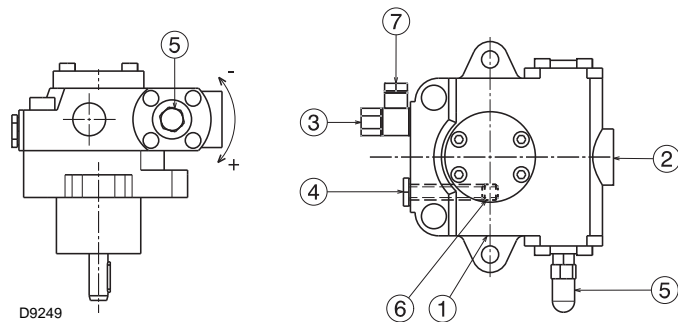

Fig. 20
For the priming pump loosen the screw 4)(Fig. 20) in order to bleed off the air contained in the suction line and wait until the fuel flows out.
The pumps are installed on the burner with the by-pass closed by screw 6)(Fig. 20).
- In order for self-priming to take place, one of the screw 4) (Fig. 20) of the pump must be loosened in order to bleed off the air contained in the suction line.
Key (Fig. 20)
The a.m. operation is possible because the pump is already full of fuel when it leaves the factory. If the pump has been drained, fill it with fuel through the opening on the vacuum meter 4)(Fig. 20) prior to starting; otherwise, the pump will seize.